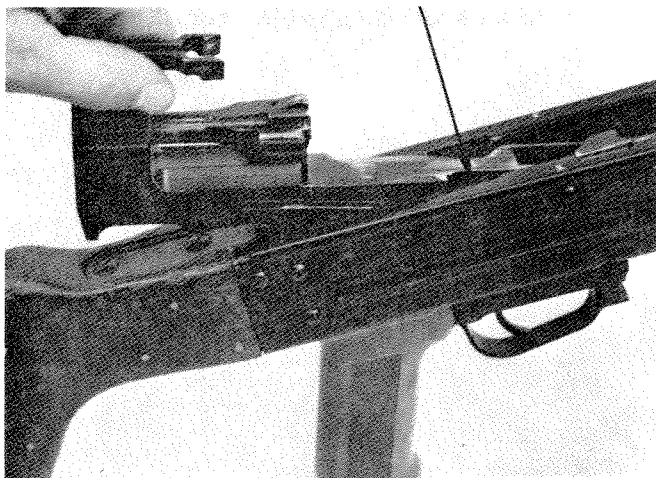
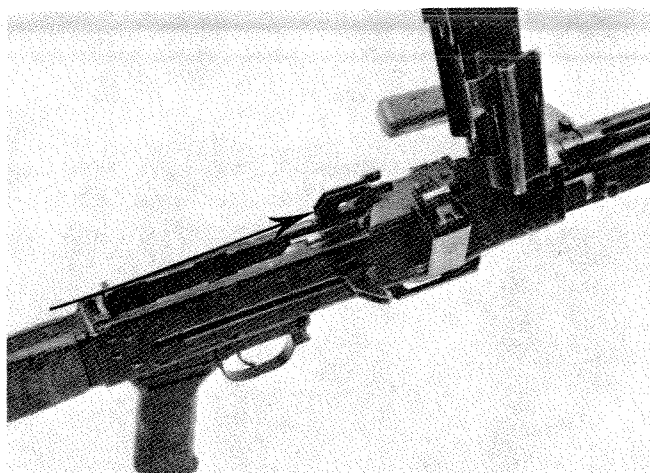

Figure 5-8. Sliding cam notches aligned with receiver group grooves.
Figure 5-9. Sliding cam and piston in forward position.
f. To insert the sliding cam and cam piston into the receiver, align the notches on the sliding cam (fig. 5-8) with the grooves on the receiver group. Slide the sliding cam and piston (fig. 5-9) while depressing the trigger.